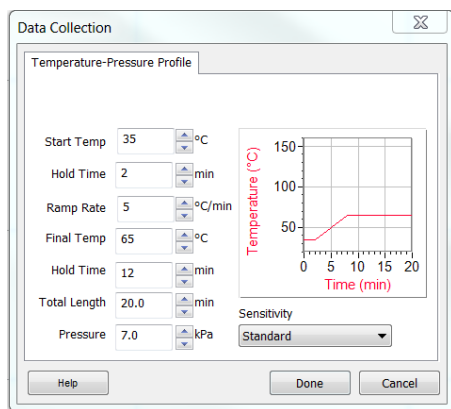

Figure 1 Temperature-Pressure
- d. Click Collect in *Logger Pro* or tap ► in LabQuest 2 or LabQuest, to bring up the Temperature-Pressure profile, similar to Figure 1.